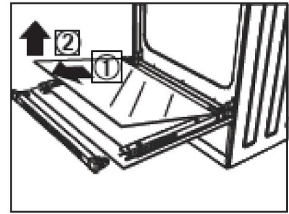

Fig.3
- Then remove the inner-glass as shown in Figure 3